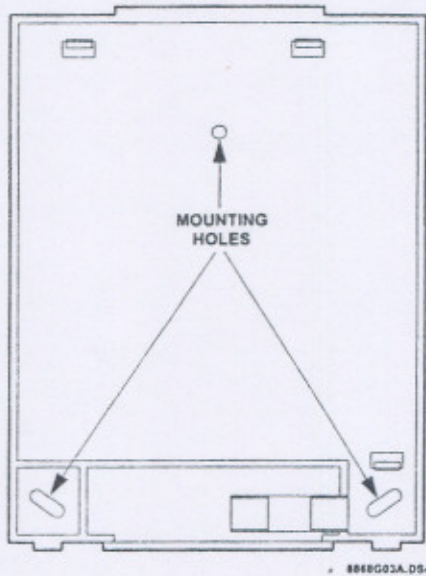

Figure 5. Mounting Hole Locations
- b. If installing the bus interpreter module using the enclosure, place the circuit board in the cover and mount the base anchors and screws (included) at the three mounting hole locations (see Figure 5).